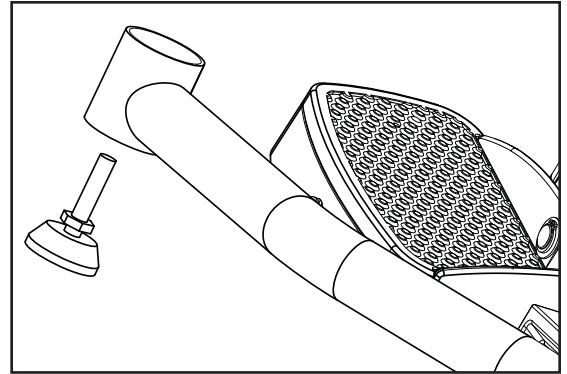

Figure 15
**9-2** Remove the 2 rear leg levelers (see Figure 15).